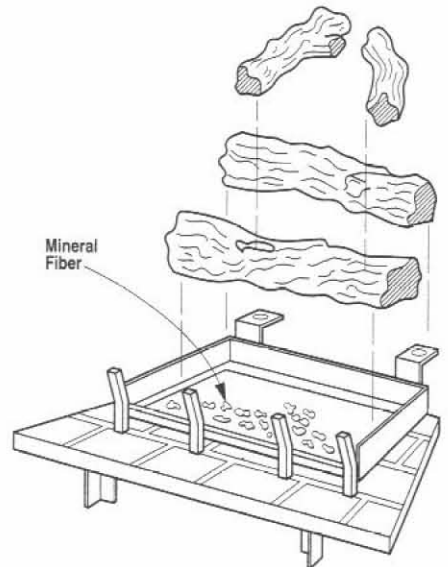

Figure 19
Carefully position and center the fiber logs onto the burner with the longer log in front. Place the two (2) smaller fiber logs across the two (2) lower logs in the manner illustrated (*Figure 19*). The flames should not impinge on the logs.